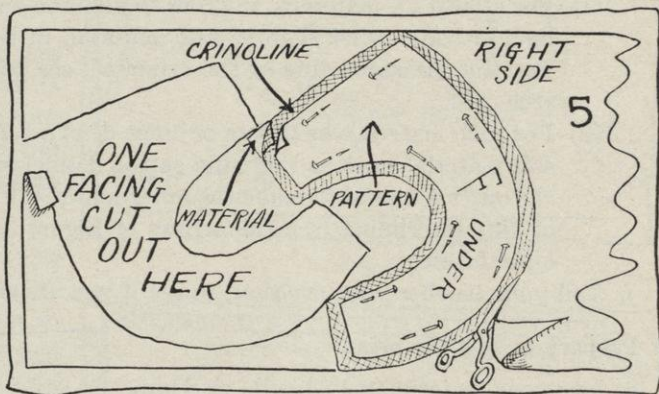

FIG. 5.
- l. Place the piece of material that you have just cut out (with crinoline and pattern still pinned to it) on the remaining material with the two right sides of the outer material facing each other. Place it with the front of the brim on the bias of the material, and place it in the best way to use as little material as possible (see Figure 5).
- n. As soon as your teacher approves, cut the second piece of material out, at the edge of the first piece of material. **Do not cut at edge of pattern** (see Figure 5). The piece of material you have just cut will be the *under facing* of the brim.